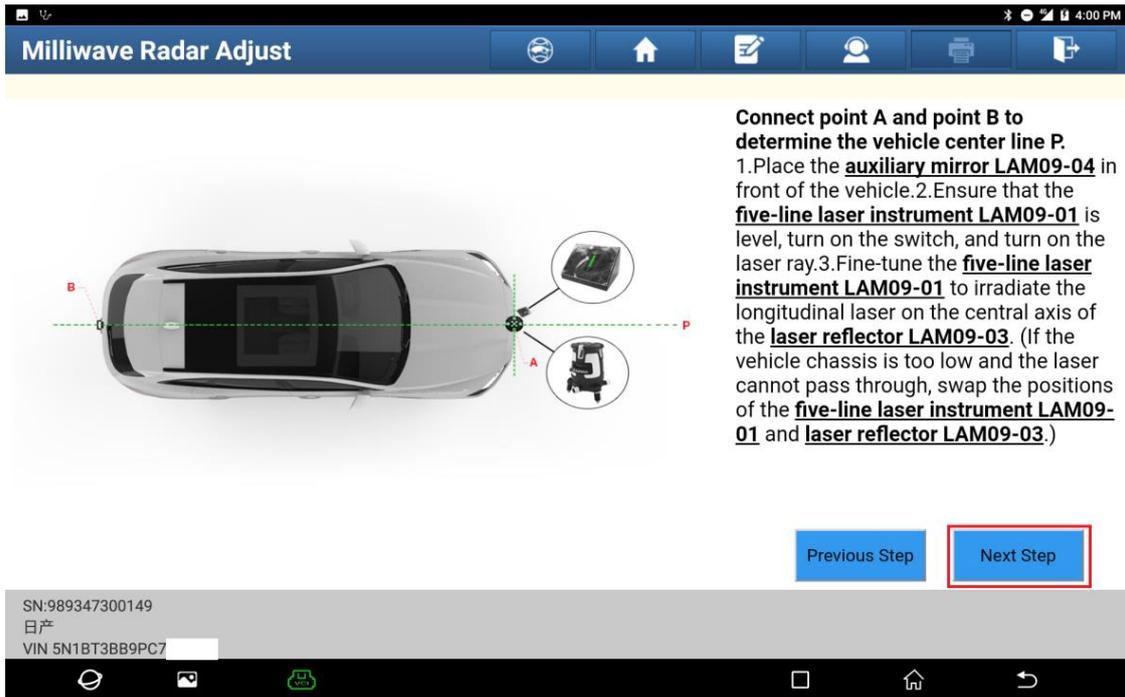

Figure 8
8. Click [Next Step]. Connect points A and B with laser to determine the vehicle center line P (as shown in Figure 8).